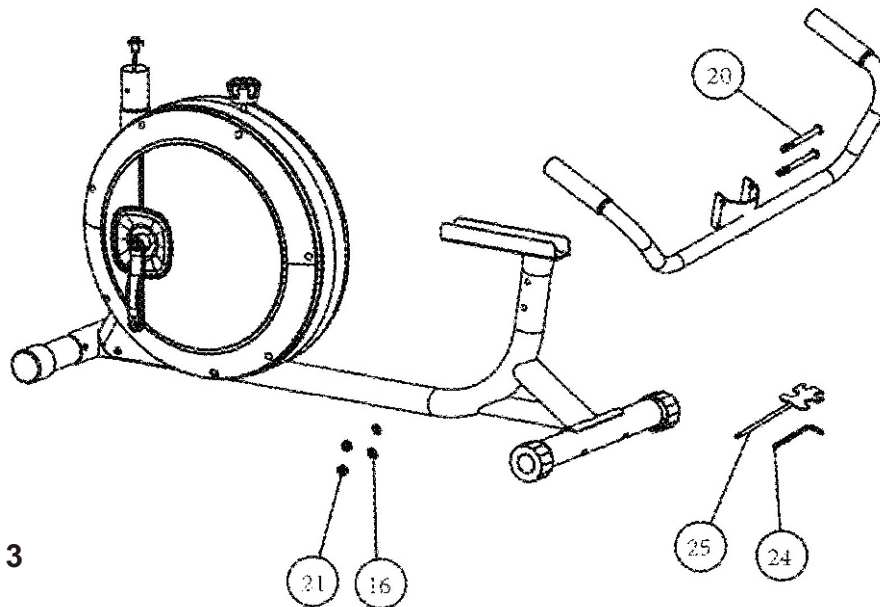

Figure 3
3. Use two No.20 round head hex bolts, No.16 arc washer and No.21 anti-loosening nut respectively, use No.25 open cross wrench, No.24 hex wrench to fix the No.05 rear grip group to the No.01 main frame as shown in Figure 3.